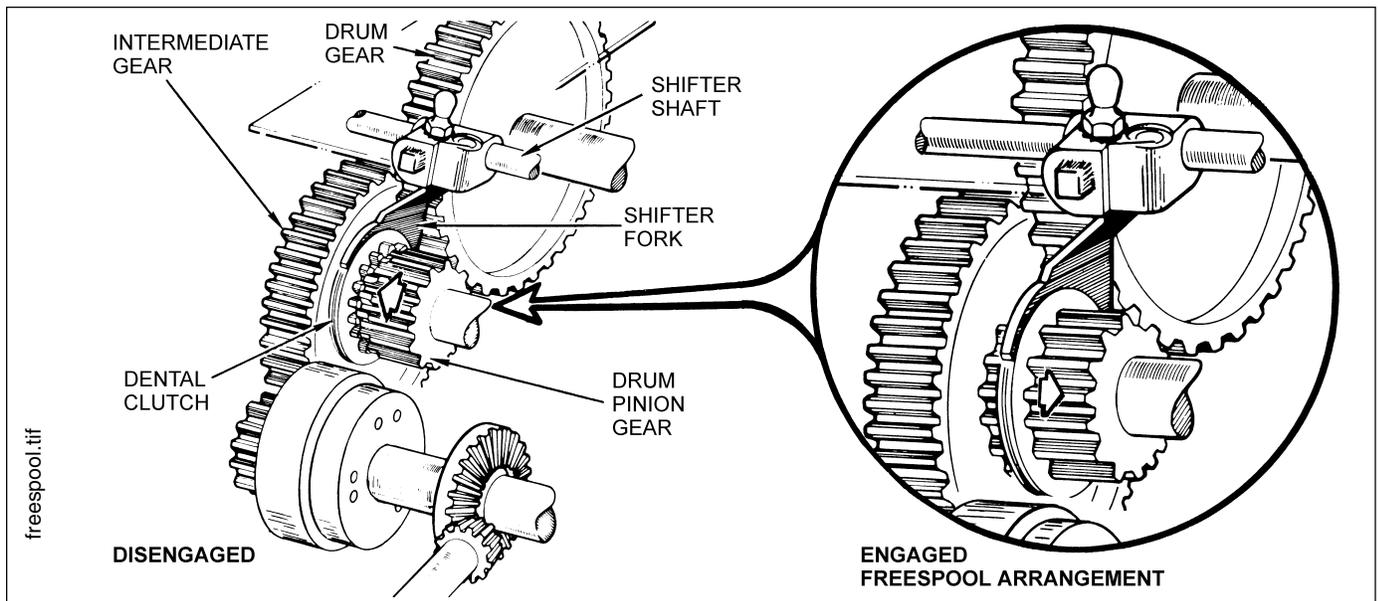

Figure 1-5 Freespool
**Freespool Operation (W6F & W8L Only; See Fig. 1-5)**